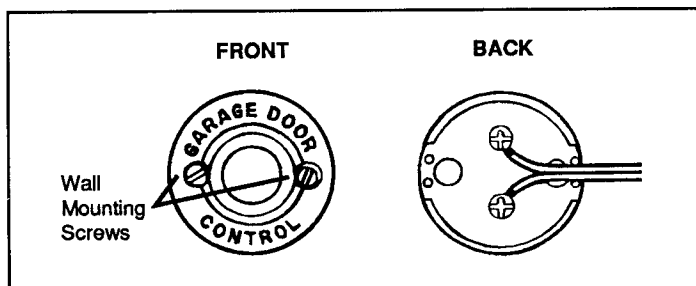

Figure 11
Step 24: Select a convenient mounting location for the wall switch near an access door. It is recommended that it be mounted no lower than 5 feet so as to be out of reach of small children (see Figure 11).
Step 25: Attach one wire to each of the two terminal screws on the back of the wall switch (see Figure 11).